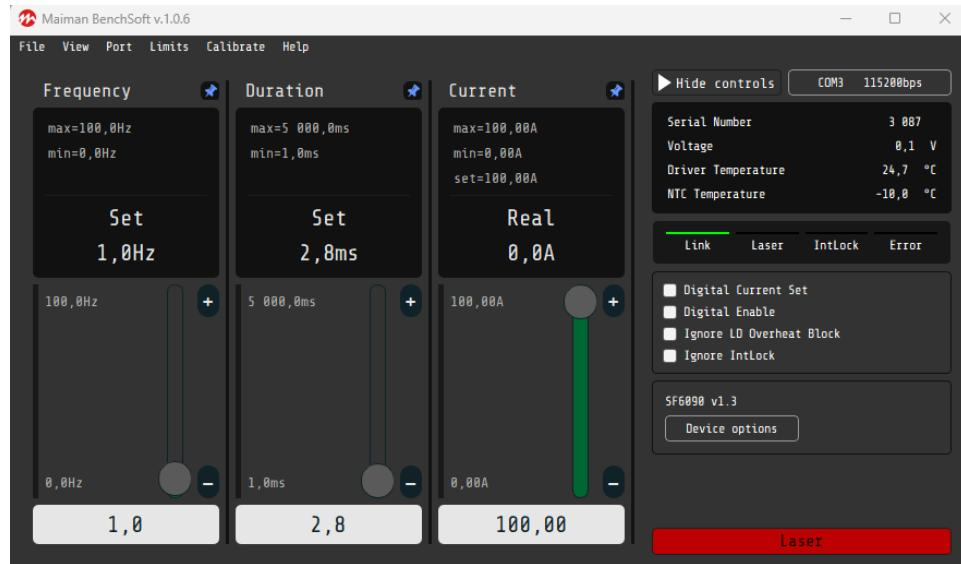

Figure 6. MAIMAN BENCHSOFT software program settings
6. Click on Disconnected button. Software connects to driver unit and software window changes. See the Figure 6.